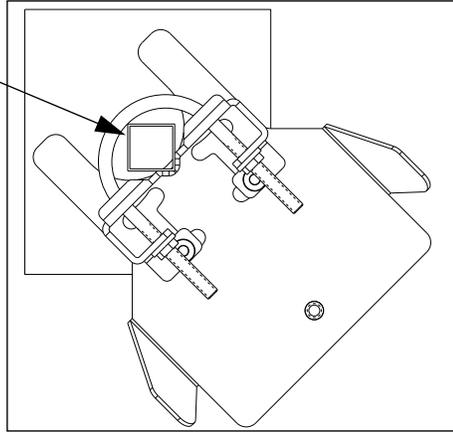

Figure 3.1
2. Mount the four support brackets under the enclosure by placing one on each pedestal mount bracket by attaching the U-bolt and nut around the pedestal (See Figure 2.1). Refer to Figures 3.1 through 3.3 for adjustment to various pedestal sizes. Use the magnetic ruler to measure the correct mounting location for each support bracket. Point them towards the center making a cross from the corners (See Figure 2.2). Ensure that the plate is allowed to pivot from side-to-side. **NOTE:** If Grid Runner is placed above pedestal plate, then the mounting assembly must be removed from plate and reconnected with the mounting assembly under the pedestal plate (See Figure 2.3).